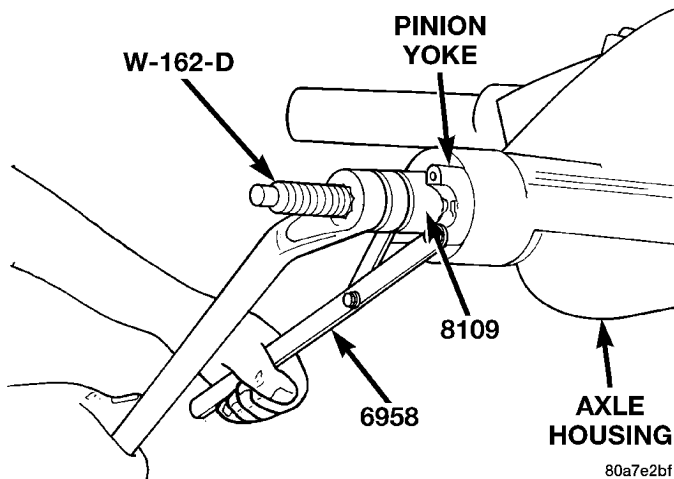

Fig. 13 Pinion Yoke Installation
(2) Install yoke, or pinion flange, on the pinion gear with Installer W-162-D, Cup 8109, and Holder 6958 (Fig. 13).